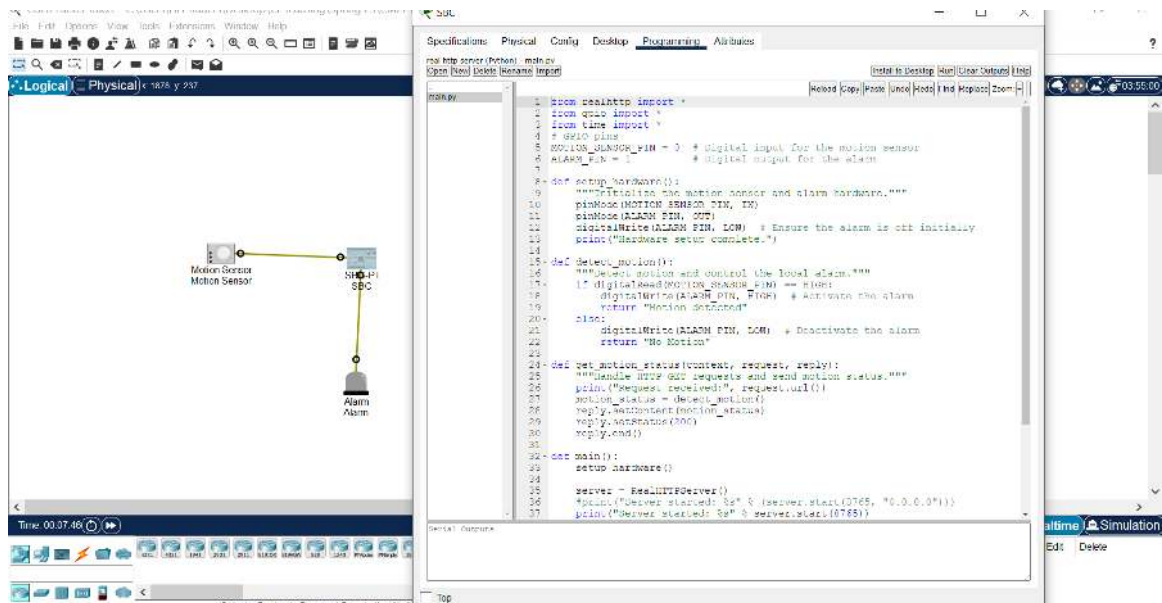

Figure 11.7: Real HTTP Server in the virtual world.
4. Copy and paste the provided Real HTTP Server code from the GitLab repository as shown in the Figure 11.7.